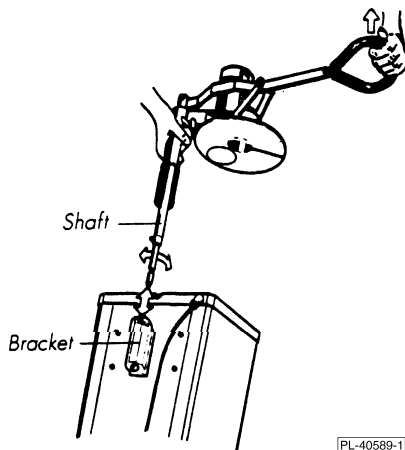

Fig. 2
1. To fit the pusher plate, you **MUST** hold it with both hands in the exact positions shown in Fig. 2. Hold it with the pusher plate handle to the left of the machine (as you face the front). Position the pusher plate shaft against the bracket on the food processor.
4. Take hold of the pusher plate with both hands (Fig. 2).